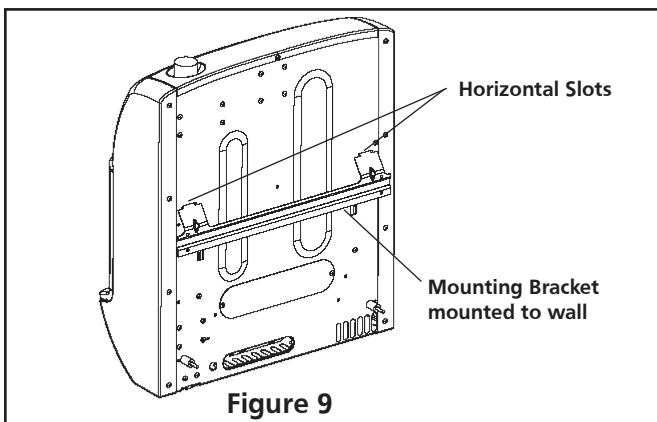

Figure 9
1. Locate two horizontal slots on back pane of heater (see figure 9).